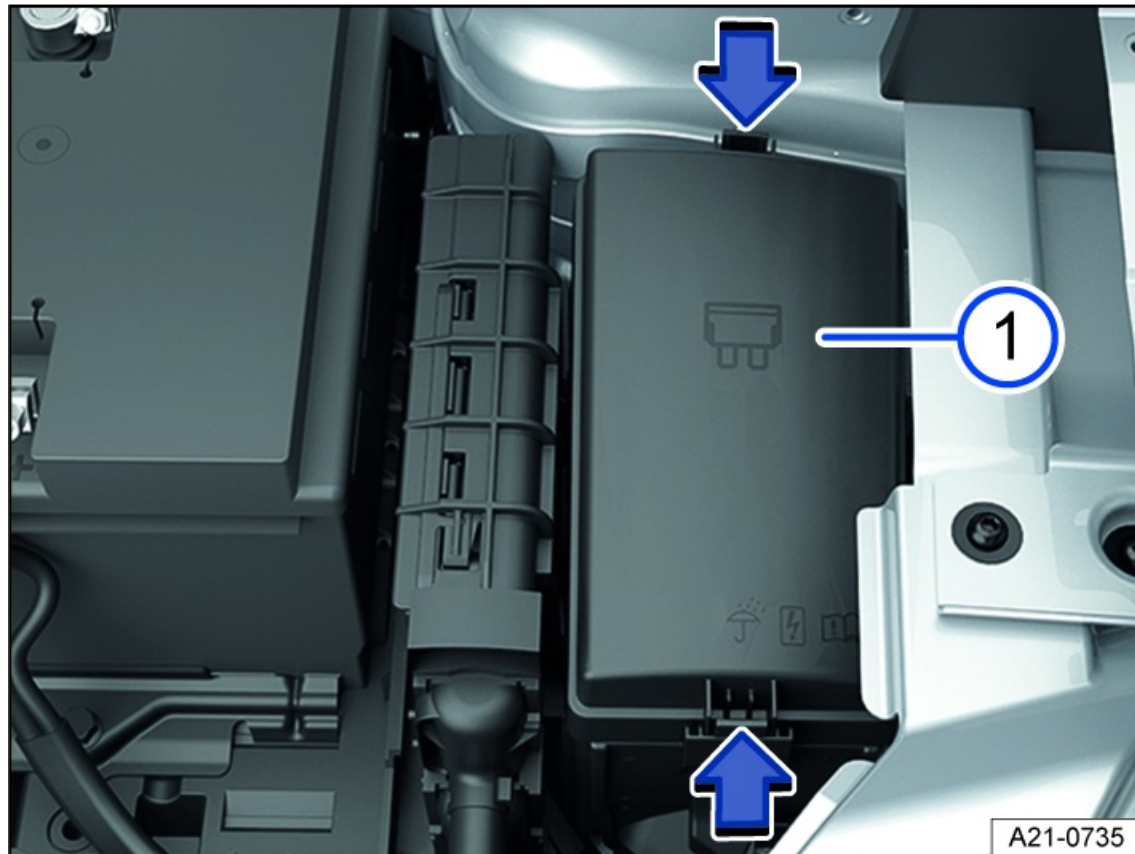

Fig. 191 In the engine compartment: Fuse box.
2. Press the catches in the direction of the arrow to unlock the fuse box cover *fig. 191* .